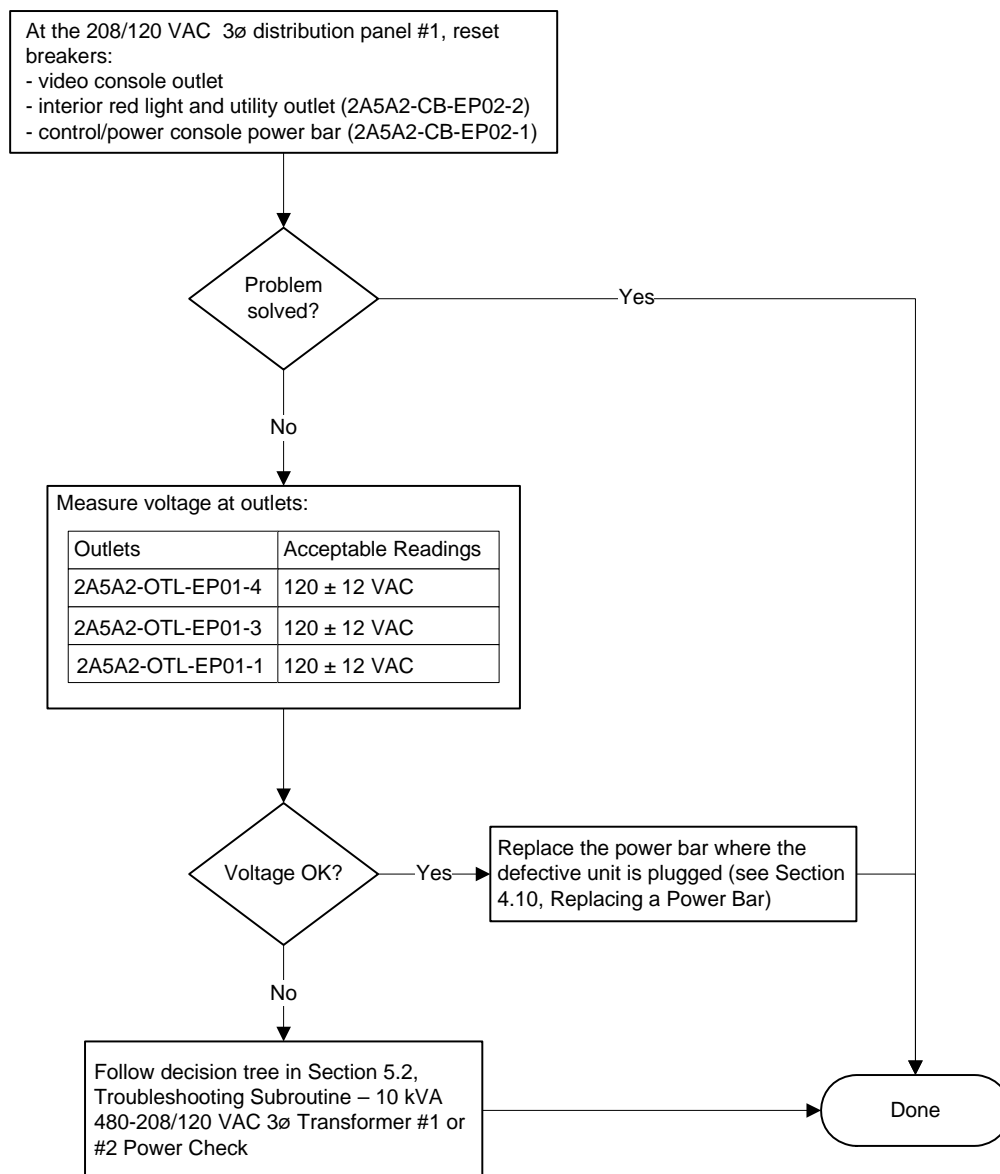

Figure 7 Troubleshooting – Unit Plugged in Power Bus #1 Doesn't Work
1. Follow the troubleshooting steps in Figure 7.